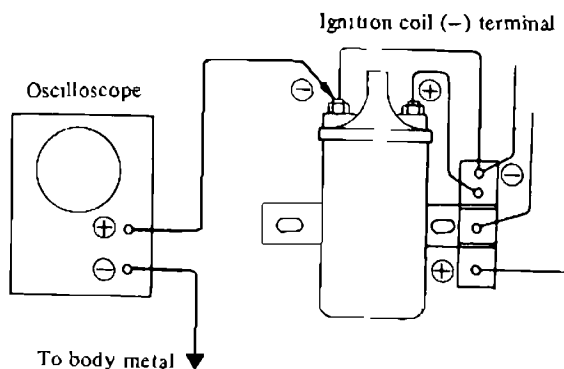
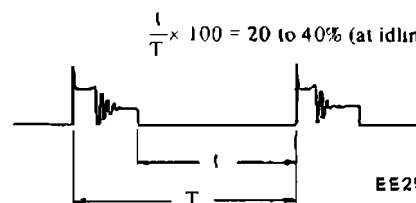

Fig EE-82 Checking operation of transistor ignition unit
Fig. EE-84 Wave form of duty pulse
5. Connect oscilloscope as shown in Figure EE-82, rotate the starter motor and observe the wave form on the oscilloscope.
2. While the engine is idling, observe the wave form on the oscilloscope in the same way as stated in item 5-1, Figure EE-82. Determine the ratio t/T as shown in Figure EE-84.
1. Connect a circuit tester as shown in Figure EE-82 or EE-85; positive terminal of tester is connected to "L" color wire and negative terminal of tester is grounded.
1. When using an oscilloscope instead of a tester, arrange the connection in the same way as shown in Figure EE-82 or Figure EE-85. Turn on ignition switch.